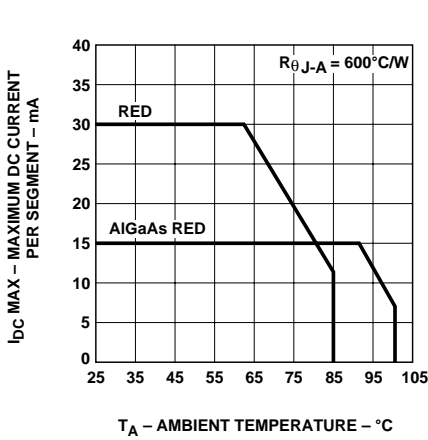

Figure 3. Maximum Allowable DC Current vs. Ambient Temperature.  $T_{JMAX} = 100^{\circ}C$  for Red and  $T_{JMAX} = 110^{\circ}C$  for AlGaAs Red.
- Derate maximum DC current for Red above  $T_A = 62^\circ\text{C}$  at 0.79 mA/ $^\circ\text{C}$ , and AlGaAs Red above  $T_A = 91^\circ\text{C}$  at 0.8 mA/ $^\circ\text{C}$ . See Figure 3.